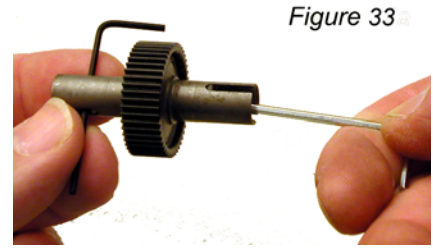

Figure 33
**Step #3:** Following along with **Figure #31**, slide (1) #4360 Diff Thrust Washer onto the #4361 2-56 Diff Bolt. Apply a good amount of #4388 Black Grease to the Thrust Washer on the side facing away from the bolt head. Now stick (6) #4359 Diff Thrust Balls into the Black Grease on the Thrust Washer. Slide the remaining Thrust Washer onto the Diff Bolt. There should be enough Black Grease to hold the Thrust Balls in place during assembly. Now carefully slide the entire Bolt into the outdrive end of the #4403 Right Diff Outdrive Hub without losing any Thrust Balls. Finally insert the Bolt Cover.
**Step #4:** Insert (1) #1229, 5/32" X 5/16" Bearing into the Right Outdrive Hub. Apply a very thin coat of Diff Grease to the flat area on BOTH the Right AND Left Outdrive Hubs as shown in **Figure #32**. Now place (1) #4404 Diff Drive Ring on both areas with the thin coat of Diff Lube. Slide the Diff Gear onto the Right Outdrive Hub. Finally slide the Left Outdrive Hub over the Diff Bolt and onto the Diff Gear. Tighten the Diff Bolt to the T-Nut but not all the way. Check to make sure the Diff Plates are still in their seat on the Outdrive Hubs and rotate the Diff Hub several times as you tighten the bolt. Follow Step #5 for instruction on how to finish tightening the Diff Bolt.
**Step #5:** As shown in **Figure 33**, place the 1/16" wrench used earlier through the slot in the opposite Diff Outdrive. As you tighten the Diff Bolt, you should notice the T-Nut stubs moving closer to the end of the Diff Hub slot. While the T-Nut is moving closer to the end of the slot, the spring behind the T-Nut is being compressed. When the T-Nut reaches the bottom of the slot, the spring should be fully compressed. Pay attention to feeling when the spring is fully compressed, you **DO NOT WANT TO OVERTIGHTEN THE BOLT**. When the spring is fully compressed, loosen the Diff Bolt 1/8 of a turn, No more or less. Your Diff should spin smoothly with the hubs turning in opposite directions.